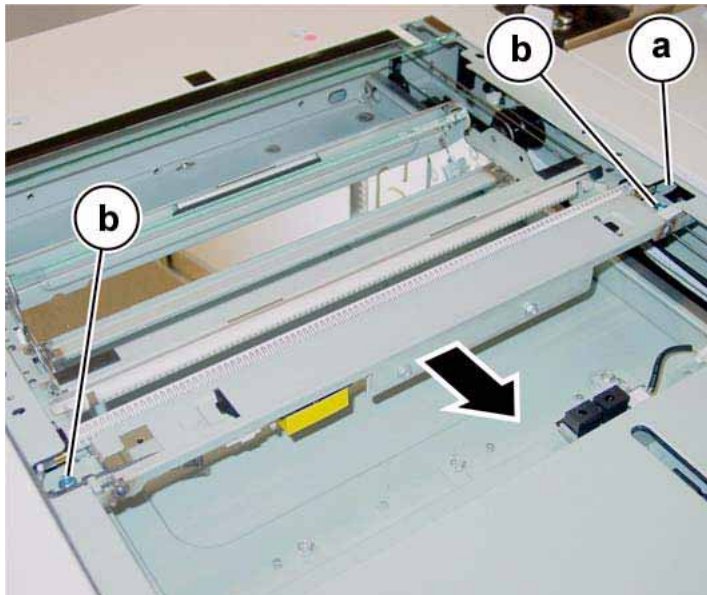

Figure 1 Full Rate Carriage securing screws
- Remove (4) securing screws.
- Remove the screws used to secure the Carriage Cable at the notch in the IIT frame. Figure 1